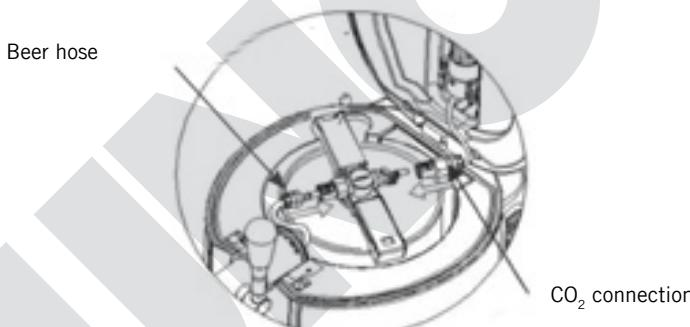

Fig.6
6. Make sure that the tap is closed. Then connect the beer hose from the tap to the tap unit (Fig. 6).